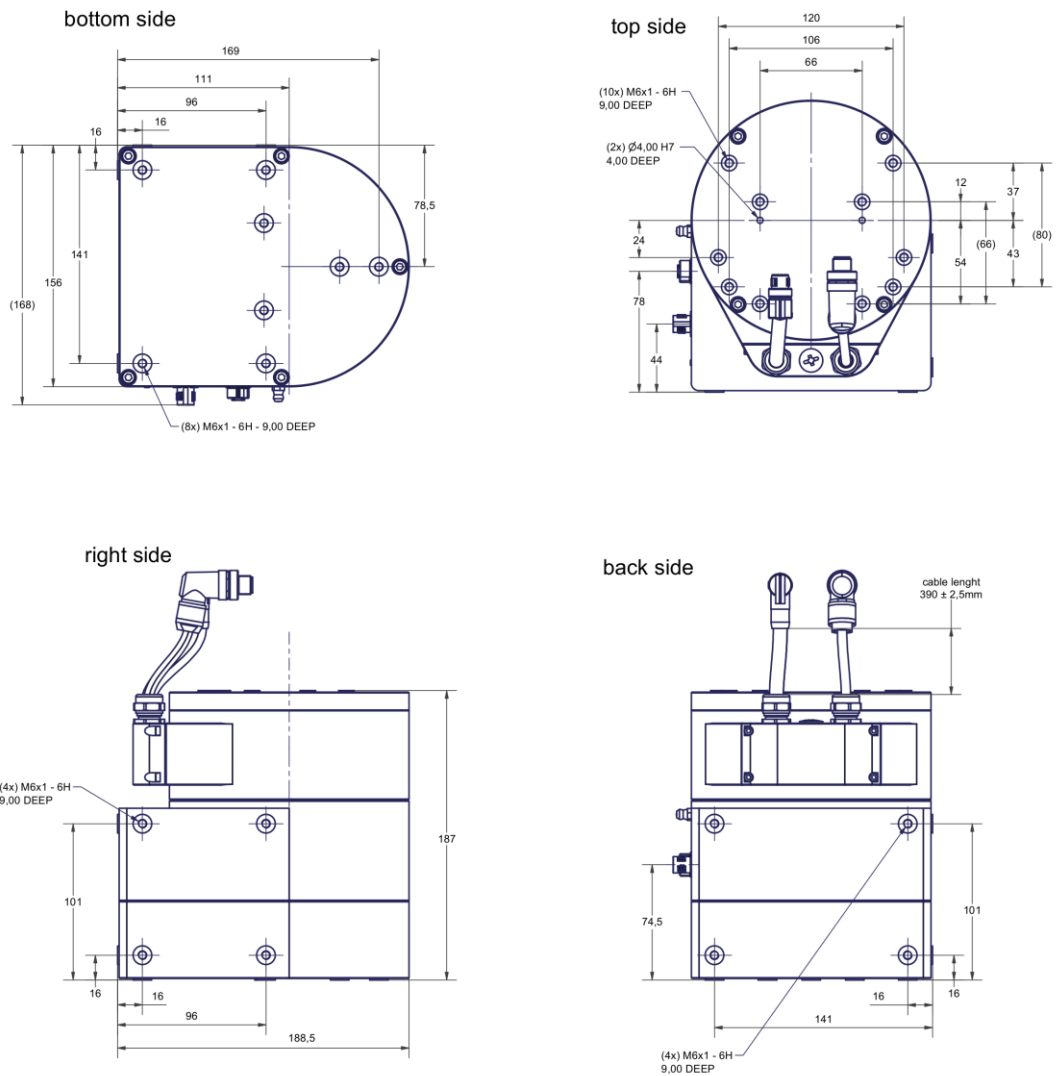

Figure 16: RT360 Rotary Table rev.02 outlines
- Figure 16: RT360 Rotary Table rev.02 outlines 38